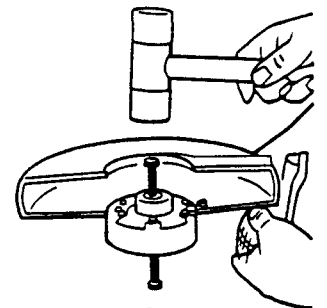

FIG 27
2. Hold unit as shown in Fig. 27 and tap shaft through using a 3/8 bolt or similar so that bolt replaces shaft and maintains alignment and contains washers, spacer and gear inside housing - DO NOT TURN HOUSING OVER.